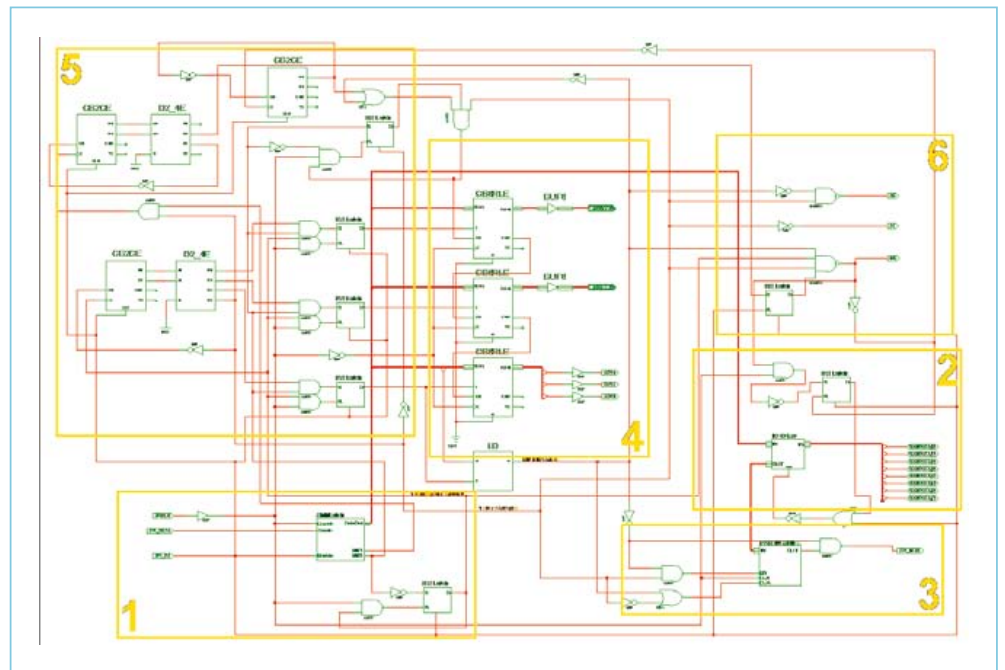

Figure 3. Details of the CPLD logic used in RAMBO-S.
The firmware design files developed by the author are available for downloading from the article support page on the Elektor website [1]. These files should enable you to burn your own CPLD for the project, as well as get an understanding of what's going on in the device. Commercial use of the firmware files is not allowed. Referring to the labelled areas in the diagram in **Figure 3** the main parts of the firmware are (1) the SPI and input shift register, (2) the data input/output driver, (3) the output shift register, (4) the address counter phalanx, (5) the counter control logic and (6) the SRAM control logic.